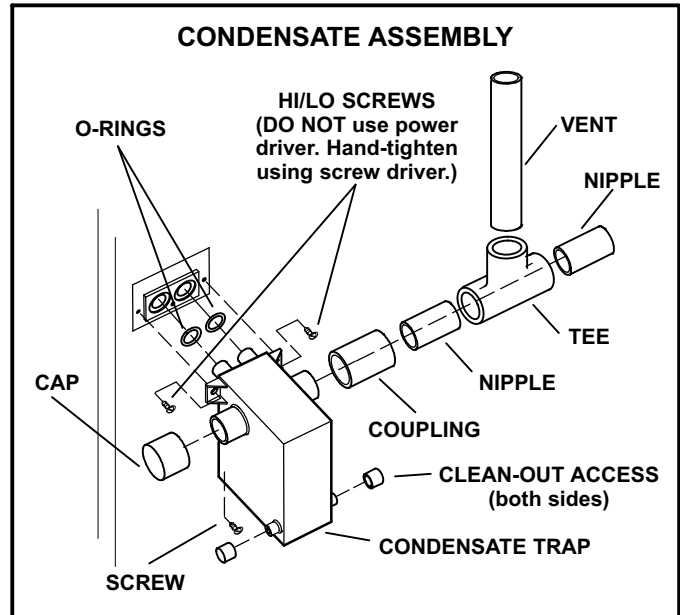

FIGURE 43
- 2 - Install condensate trap onto the condensate collar. Use provided HI/LO screws to secure two upper flanges of the trap to the collar. Use provided sheet metal screw to secure bottom trap flange to side of unit. See figure 43.